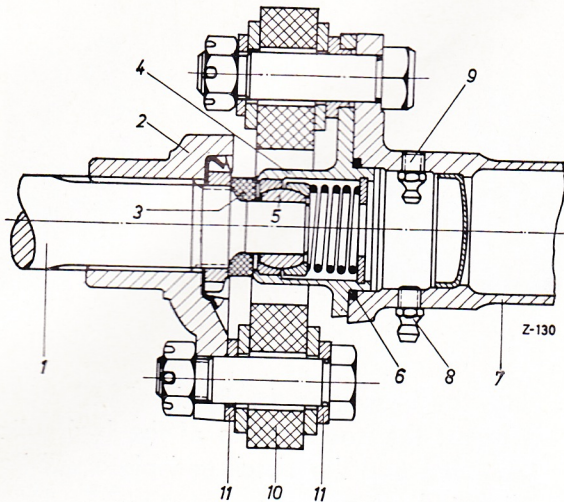

Fig. 25-1/10
24. Press the propeller shaft forward and connect it, not forgetting the rubber seal (3) (Fig. 25-1/10).